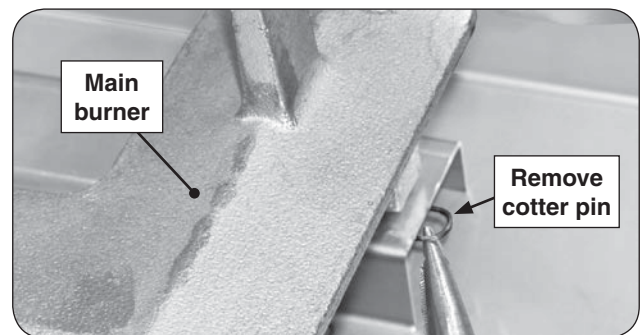

Fig. 33-2 Main burner removal
2. Locate and remove the cotter pin from the left or right rear burner anchoring peg by pulling it straight out of the cotter pin hole using fingers or needle-nose pliers. See Fig. 33-2.